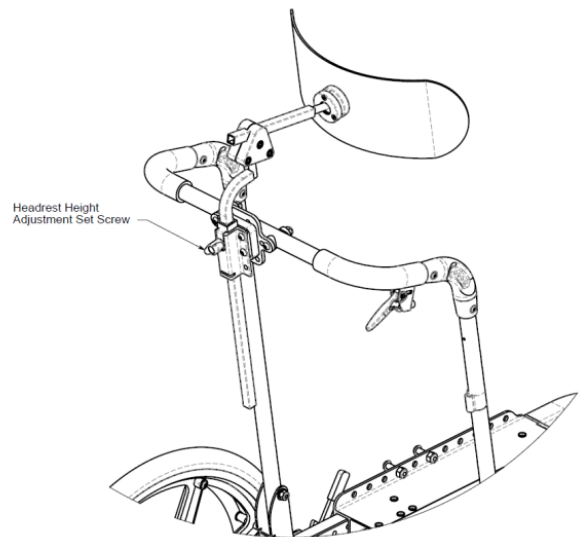

Figure 10.40: *Headrest*
1. Loosen the "Headrest Height Adjustment Set Screw" and slide the head rest assembly upwards until it is free of the chair (see Figure 10.40).
The 3 options are 20°, 25° or 30° of anterior tilt and their respective positions are shown in figure 10.40. It is easily adjusted with one bolt at the end of the gas strut.
2. Figure 10.40 shows the three (3) different positions, a pull pin can be inserted in the frame to select the desired tilt stop.